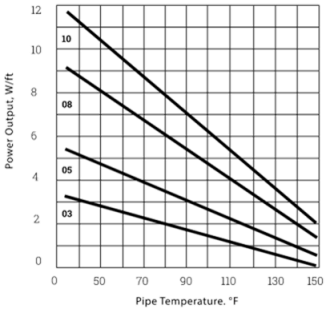

Figure 1-LXR
- For Metal Pipes—Use Figure 1, 2 or 3.
- For Plastic Pipes—Use Figure 1(LXR) by finding the intersection of the calculated heat loss, Q_F , and pipe maintenance temperature, T_M .